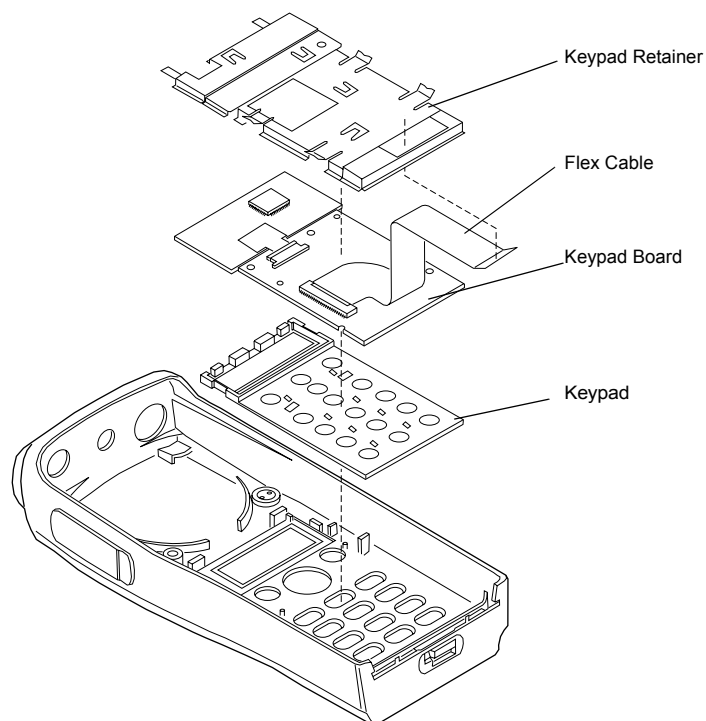

Figure 6-8. Keypad Removal
4. Lift LCD keypad board out of housing (Figure 6-8).